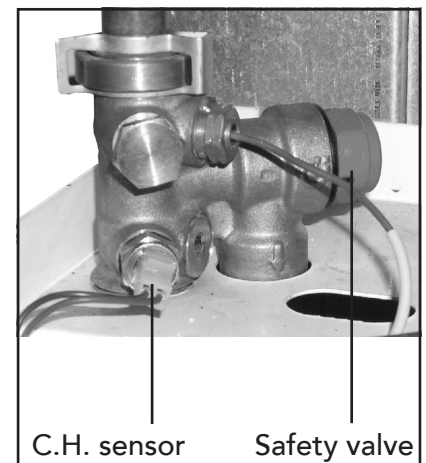

Fig. 25
**Central Heating Temperature Sensor** (fig. 25)
**Safety Valve** (fig. 25)
- Identify valve from fig. 25